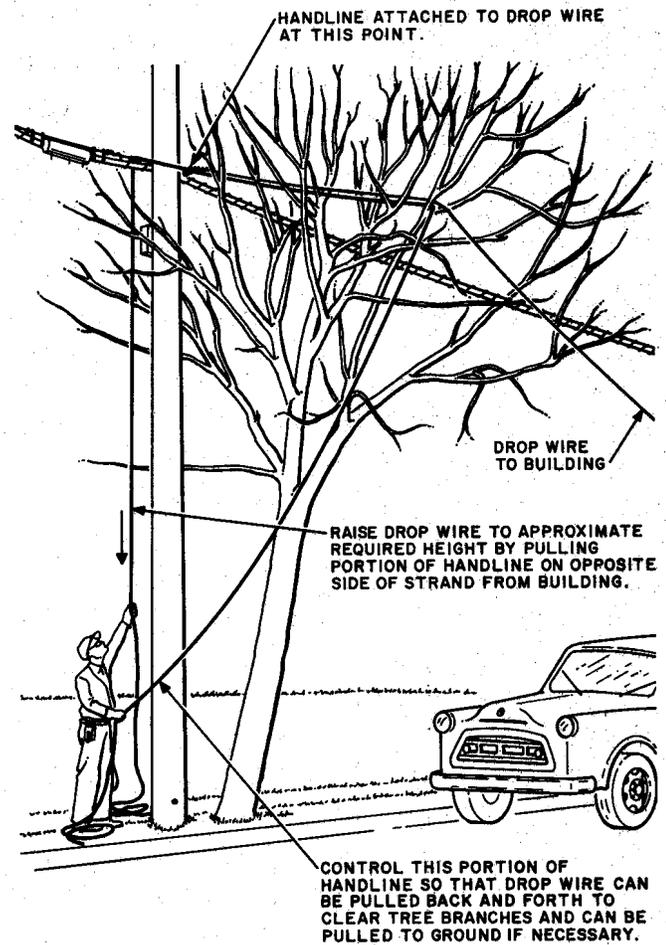

Fig. 9—Raising Drop Wire
- (c) When no vehicles or pedestrians are approaching, raise the drop wire by pulling the end of the handline placed over the strand or pole attachment. If necessary, the handline can be pulled in either direction to work the drop wire into position as shown in Fig. 9.